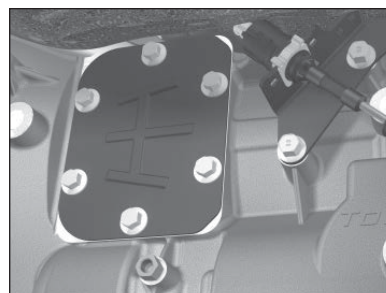

Figure 51
1. Remove the PTO aperture cover plate (**Fig. 51**).